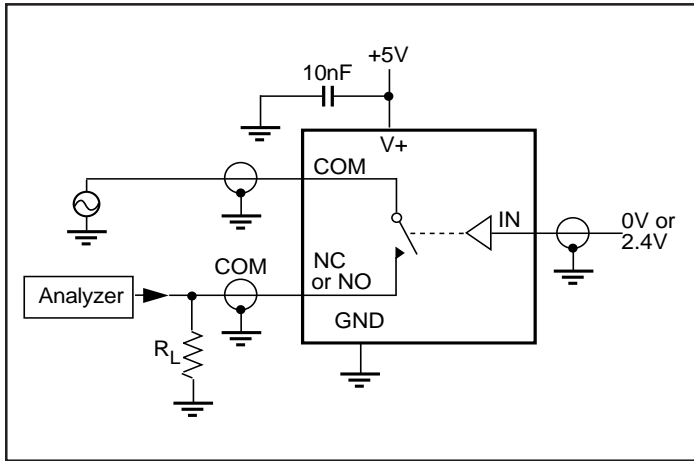

Figure 5. Off Isolation
- Off Isolation = 20log10 [ VCOM / (VNC or VNO) ]. See Figure 5.